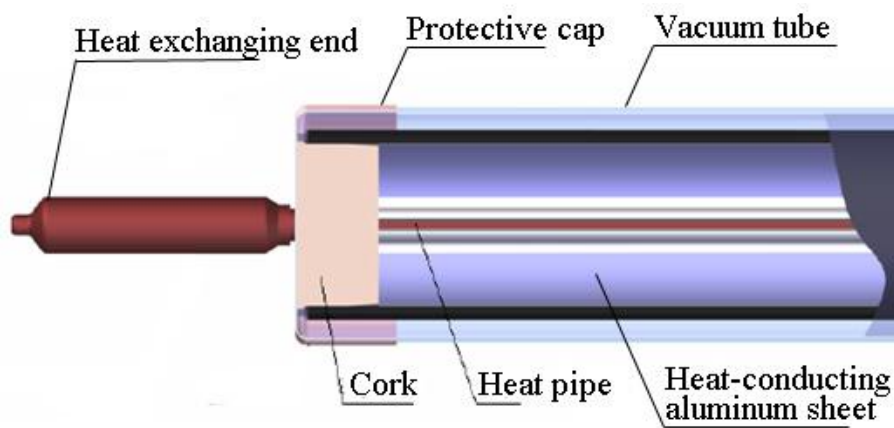

Fig. 3
3. Heat pipe vacuum tube (see Fig. 3)